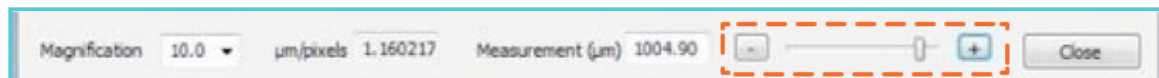

Figure 2.7 Plus and minus slider
4. Fine adjust the red box tick marks by clicking on the plus and minus slider (shown in figure 2.7) until it fits exactly.